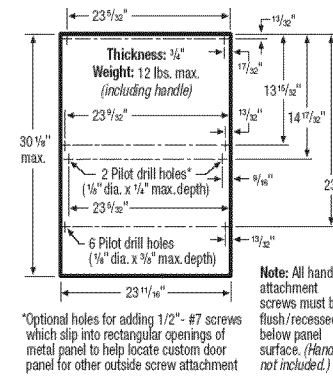

Figure 4
3. Locate water inlet valve behind kickplate on bottom left underside of unit. See Figure 4. The valve has a $\frac{3}{8}$ " NPT female fitting. Remove Plug
4. Wrap 90° elbow (not included) with pipe thread tape (or apply joint compound) and thread it into water inlet valve. When tightened, elbow should point toward the left. To prevent bending of bracket or breaking of valve, avoid overtightening. See Figure 4.
Refer to the Figure 4 for instruction references.